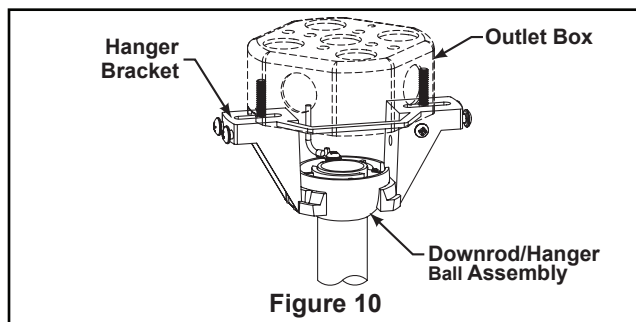

Figure 10
- ☐ 2. Carefully lift the fan and seat the downrod/hanger ball assembly on the hanger bracket that was just attached to the outlet box. Be sure the groove in the ball is lined up with tab on the hanger bracket. (Figure 10)